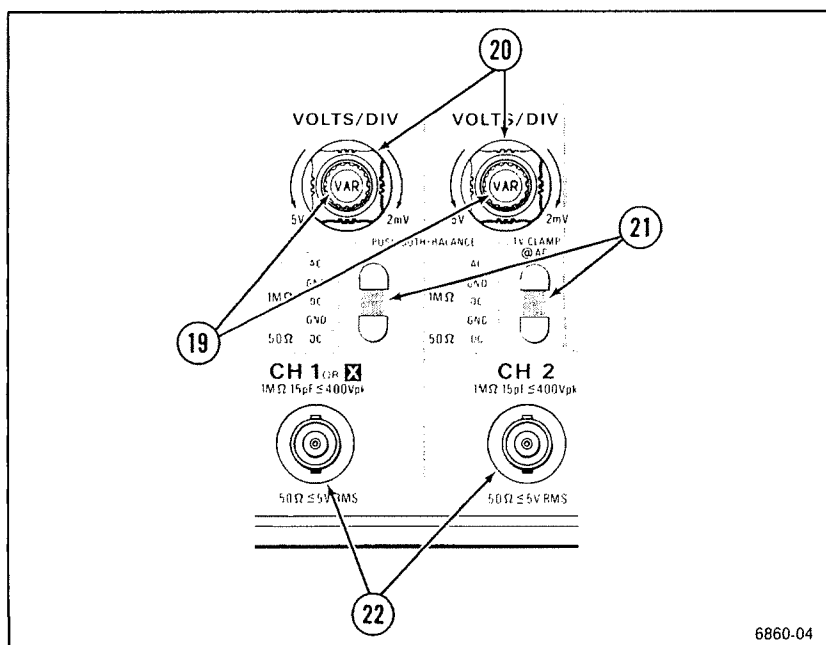

Figure 5-3. Channel 1 and Channel 2 controls and connectors.
Refer to Figure 5-3 for the location of items 19 through 22.